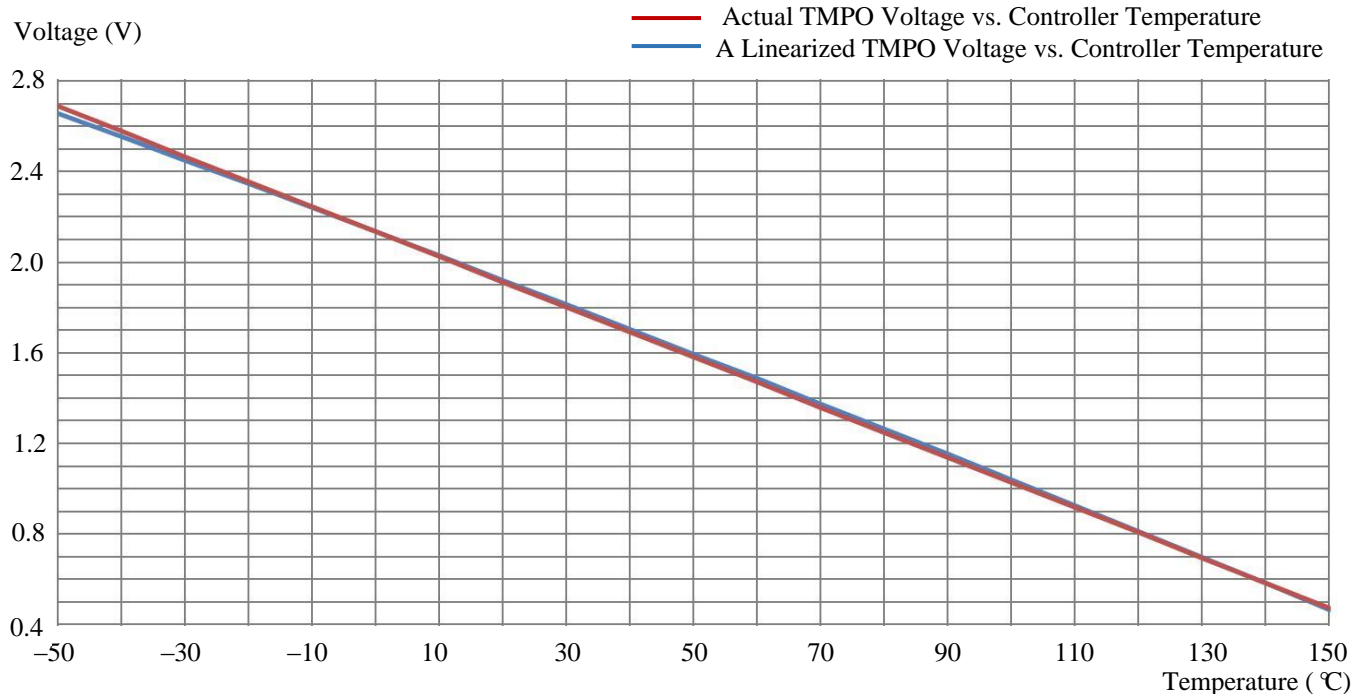

Figure 20. Controller Internal Temperature vs. TMPO Voltage
1.5V, at which the temperature error between the calculated data by using the formula (1) and the approximated data obtained by using the linear equation (2) is about 0.4°C, with the linear data being a little lower. The curves of the 2 sets of the data are plotted in Figure 20.